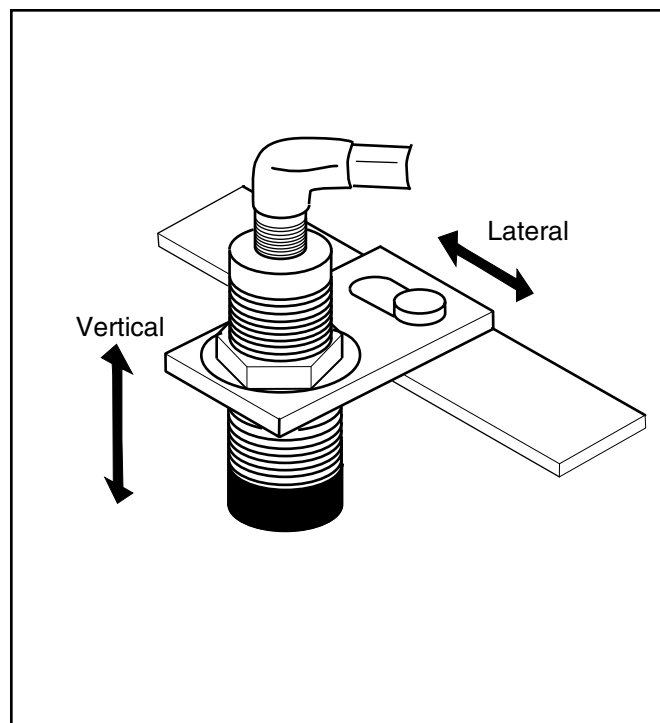

Figure 3.9 PRS Adjustment
4. As needed to obtain the 1/4 inch [6 mm] clearance, adjust sensor position by loosening the nut on the sensor. Raise or lower the sensor to the correct height as shown in Figure 3.9. Tighten the nut.
6. With PRS-4 or PRS-10, the stop must also be centered on the crawler rails. If necessary, adjust PRS-4 or PRS-10 bracket laterally to adjust for the center stop. See Figure 3.9.